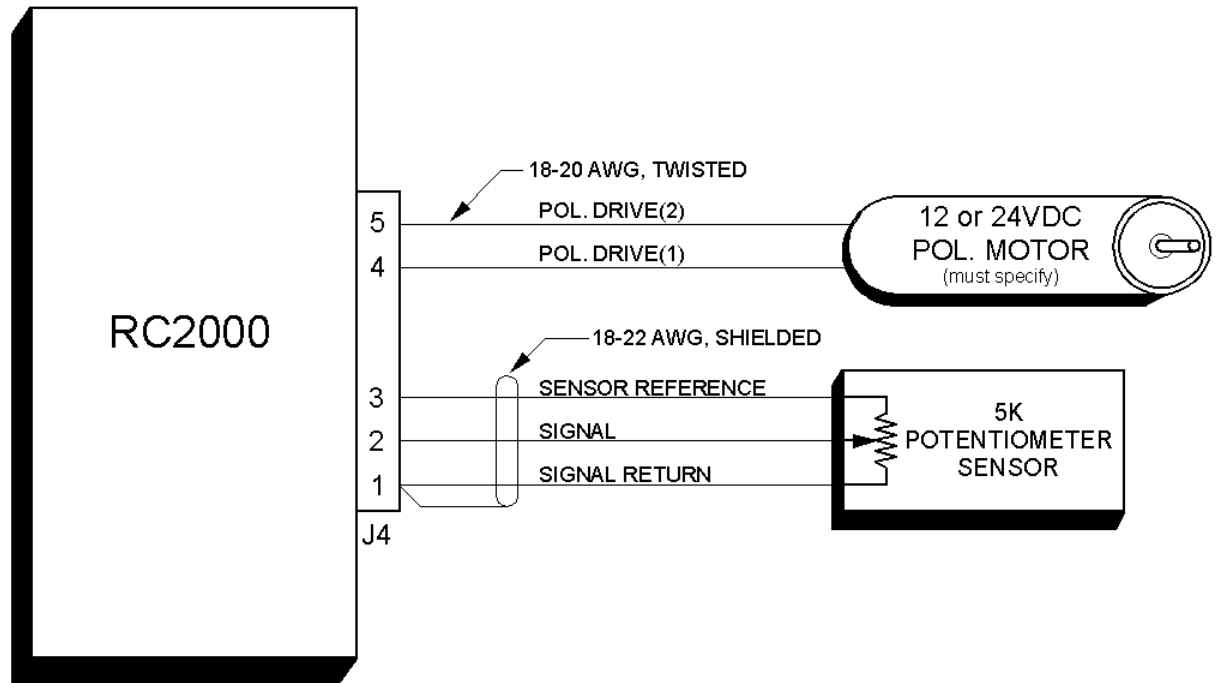

Figure 3.4 - RC2KPOL Option
1. Connect the polarization/sensor assembly as shown in figure 3.4. Note that shielded cable is recommended for the sensor connection. If a shielded cable is used the shield **MUST** be connected to the GROUND terminal (1) of connector J4 at the back of the controller and **MUST NOT** be connected to anything at the antenna. At the potentiometer use heat shrunk tubing to prevent foil shielding material from coming in contact with earth ground at the antenna
2. The CONFIG mode Rotating Feed Present item must be set to YES (1). Activate CONFIG mode and use the SCROLL DOWN key to bring up the Rotating Feed Present item and key in a 1 followed by the ENTER key. (If the Rotating Feed Present item is not accessible in CONFIG mode; the Expert Access flag has been reset. If this occurs, set the Expert Flag (1) as described in section 2.5.)